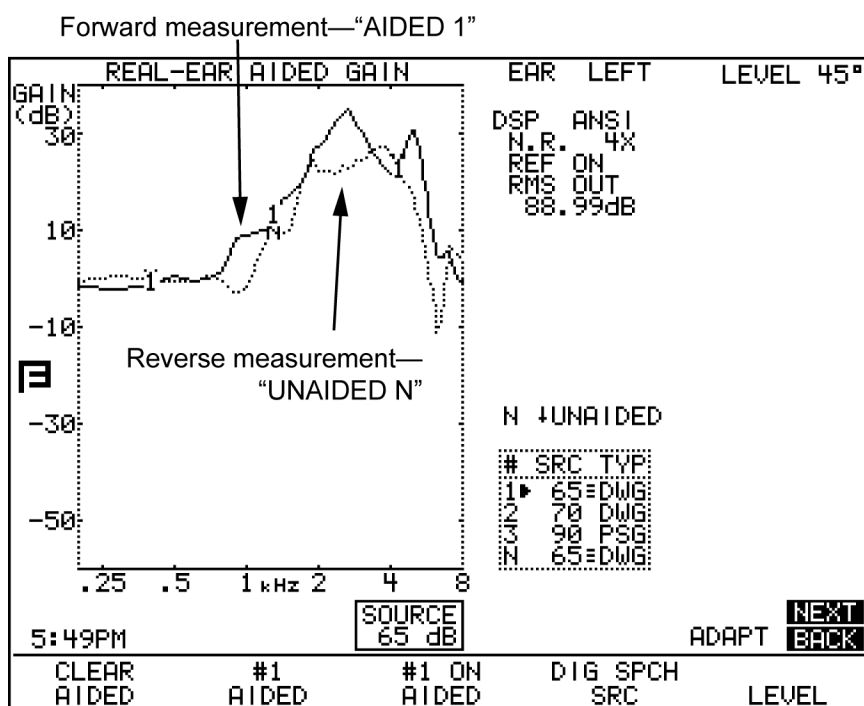

Figure 5.4.5B—"Forward" and "reverse" directional aid measurements in the real-ear unaided & aided screen
13. Press [START/STOP] to take the measurement. If you’re using a COMP or DIG SPCH signal, press [START/STOP] again to stop the signal once the measurement has stabilized. This curve is the “reverse” measurement. See Figure 5.4.5B.